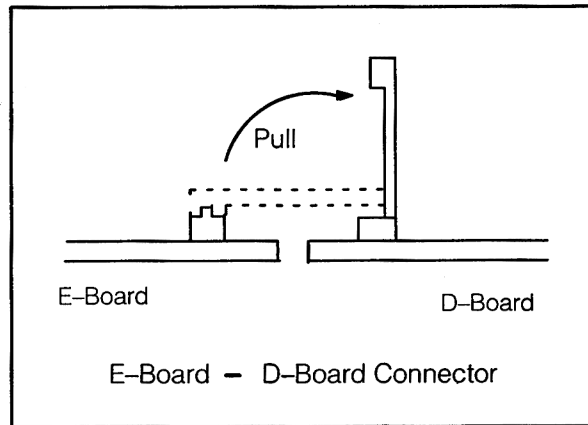

Fig. 6
1. Disconnect E-Board side of E-Board – D-Board connector as shown in **Fig. 6**.